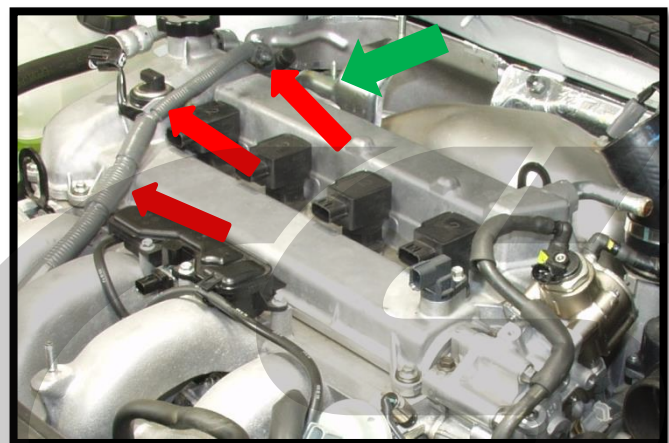

Figure 1k
p) Unbolt the bracket holding the grey harness to the intercooler bracket with a 10mm wrench (green arrow in Figure 1k).
q) Disconnect the grey wiring harness from the engine and pull it aside over the oil filler neck (red arrows in Figure 1k).